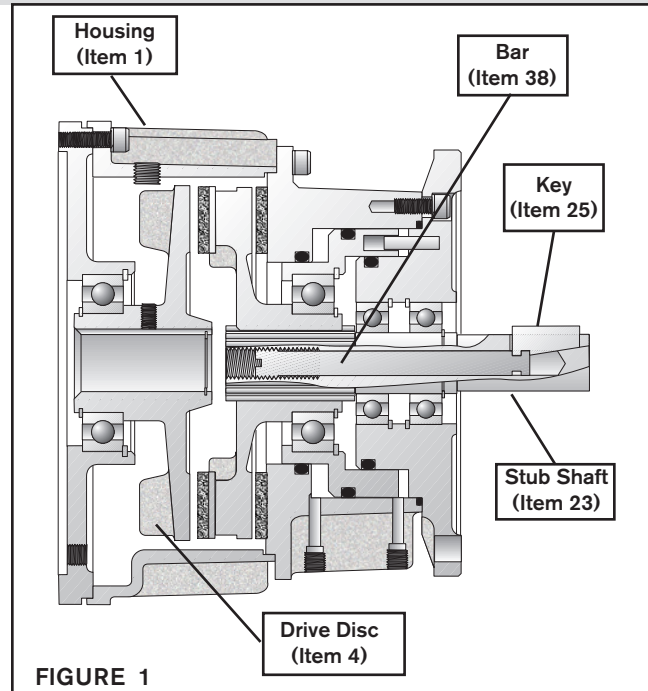

FIGURE 1
1. Coat the threads of the Bar (Item 38) with Loctite® 242; then, thread the Bar into the Stub Shaft (Item 23) until the end of the Bar is visible in the keyway slot of the Stub Shaft (See Figure 1).
2. Apply a thin film of Never-Seez® to Key (Item 25) (See Figure 1).
3. Place the Key (Item 25) into the keyway of the Stub Shaft (Item 23) (See Figure 1).
6. Tighten the Bar (Item 38) to 5 Ft. Lbs. [6.8 N•m] to firmly seat the Key (Item 25) in the gear reducer (See Figures 1 and 2).
10. Align the tapped hole in the Drive Disc (Item 4) with the hole in the Housing (Item 1) (See Figure 1).